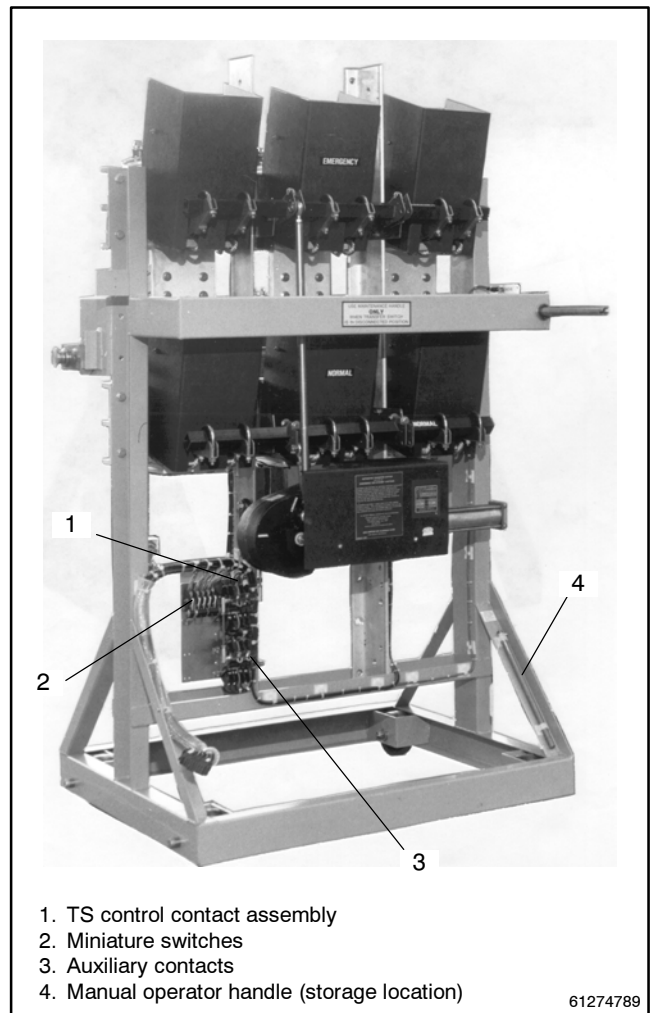

Figure 12-1 4000 amp transfer switch.
A detachable manual operator handle is provided for maintenance purposes only. The handle is stored on the transfer switch. See Figure 12-1.
4. Locate the TS control contact assembly; see Figure 12-1.